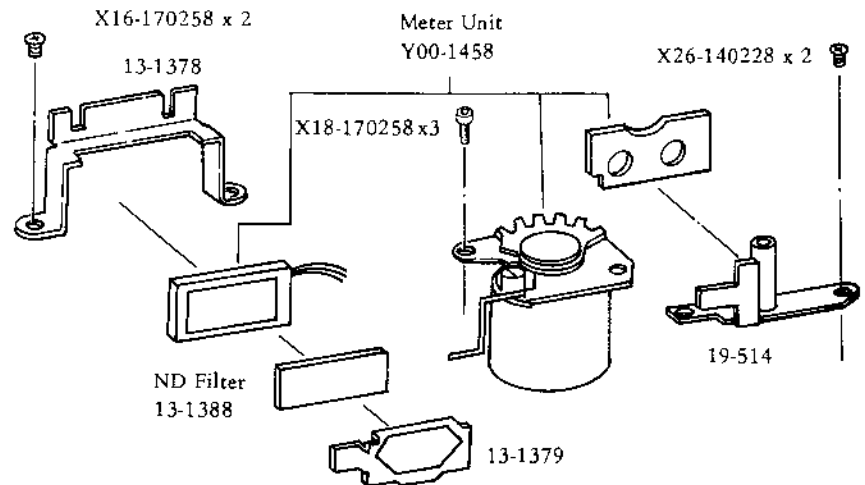

Fig. 2
1. Install the meter as shown in figure 2.